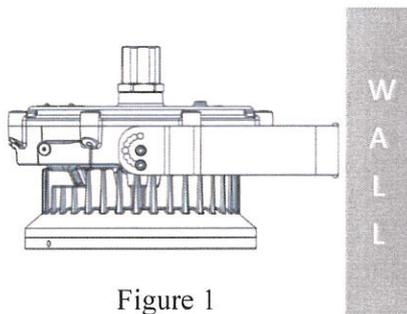

Figure 1
- ☞ Position the bracket holders and secured to mounting surface by means of the provided M6 screws, Torque value M6=24.5 kgf-cm. (Figures 1 and 2)